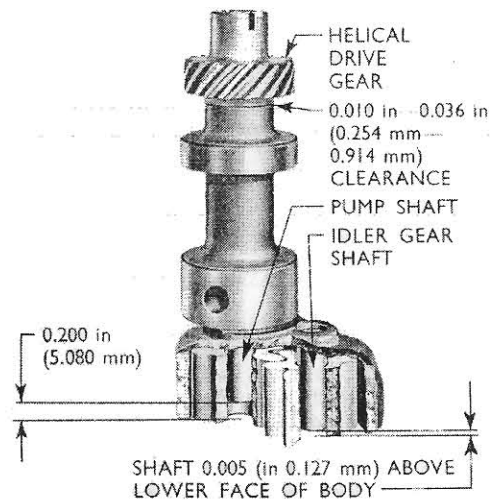

Fig. 36.
2. Press the pump driven gear onto the pump shaft, so that the end of the shaft is .20 in. (5.08 mm.) below the face of the gear, (see Fig. 36). A suitable distance piece .20 in. (5.08 mm.) thick and approximately .40 in. (10.16 mm.) diameter can be used for this purpose.